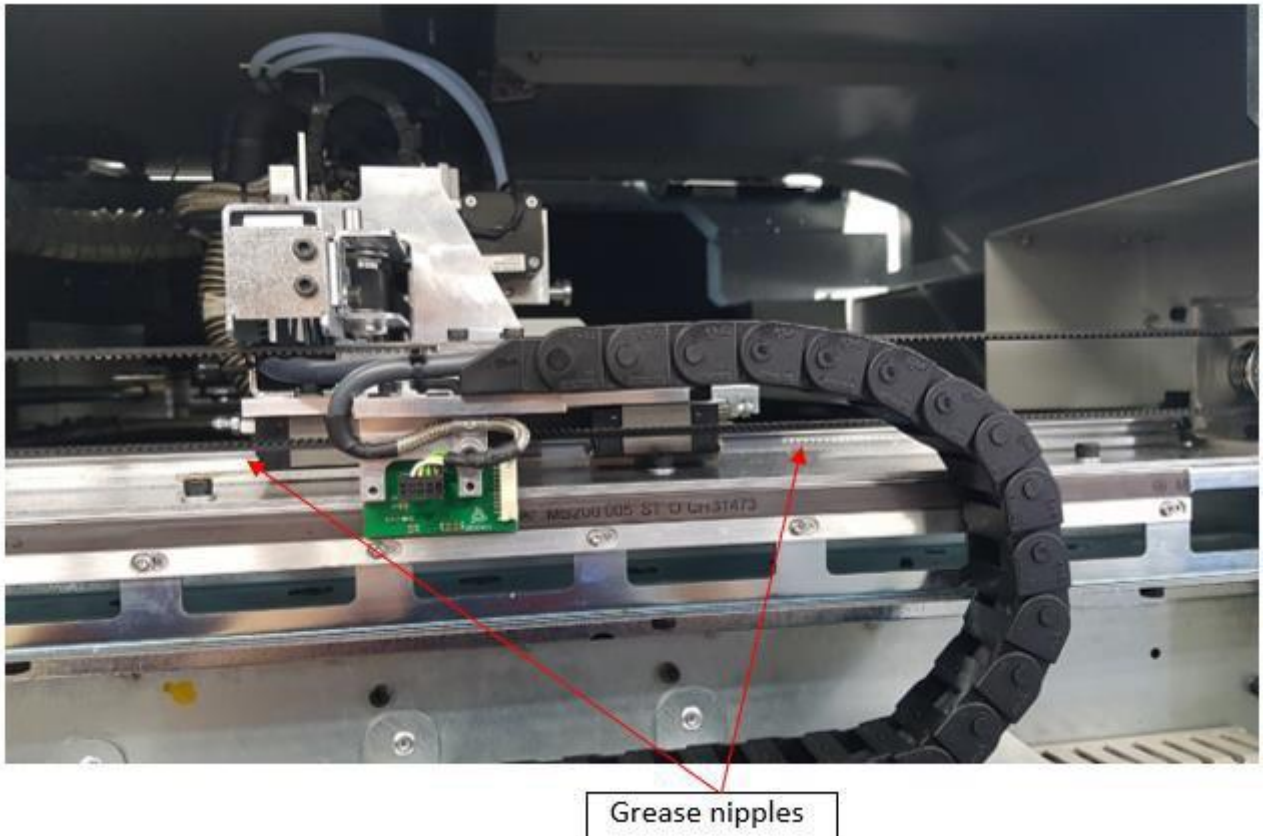

Fig. 105 Location of grease nipples on the left side of the printer
13. Locate the grease nipples as shown in Fig. 105.